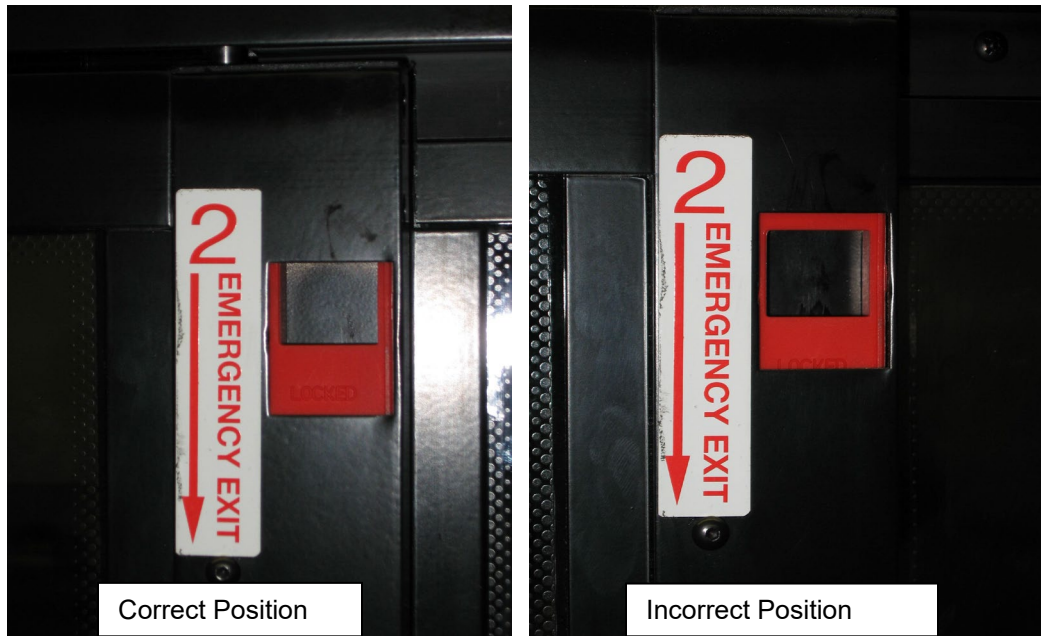

FIGURE 51: RELEASE LATCH PROPER POSITION
6. Confirm that both latches are in the closed (latched) position. The upper edge of the latch opening must be aligned with upper edge of the sash opening (Figure 51)